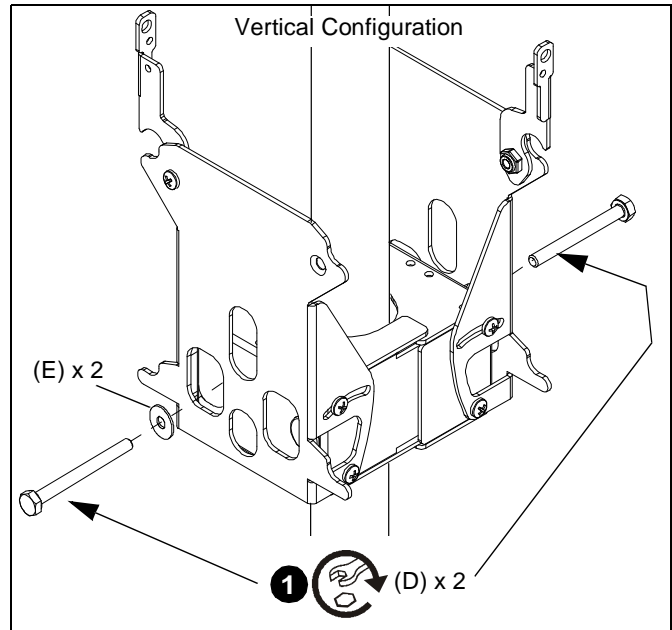

Figure 5
1. Assemble two FDP bracket halves (A) and secure around pole using two 1/4-20 x 4-1/4" hex bolts (D) and two .75 x .26 x .048" spacers (E). (See Figure 5)